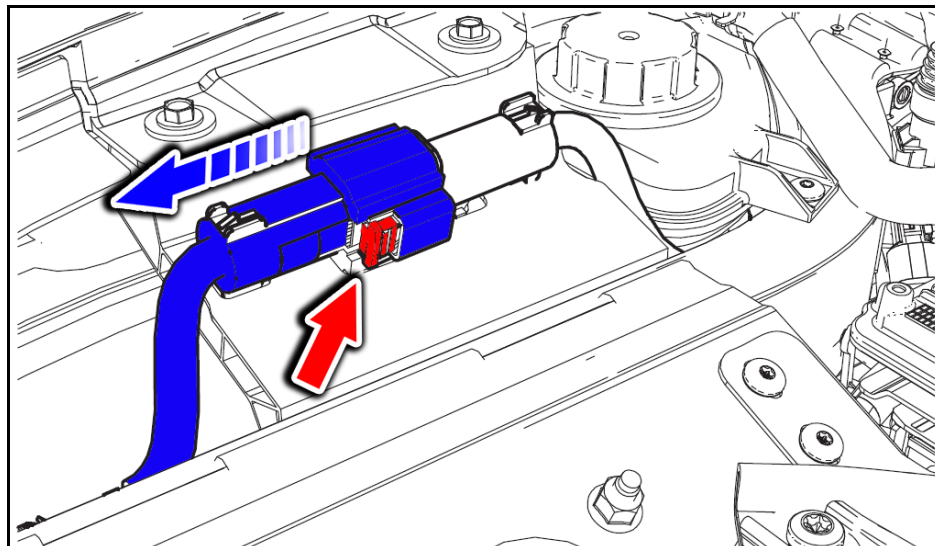

Figure 1A (12 volt negative battery connector C104)
1.2. Release clip (red arrow and highlight) and disconnect 12 volt negative battery harness (blue arrow) (Figure 1A).